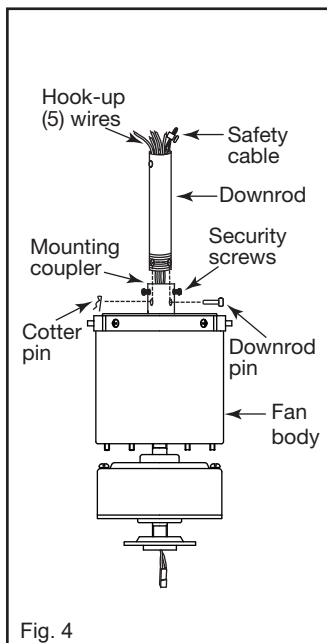

Fig. 4
Step 4. Carefully feed the electrical lead wires and safety cable from the fan through the downrod. Thread downrod into coupler until holes align. Insert downrod pin through holes in mounting coupler and downrod; clip cotter pin through small hole in end of downrod pin to hold downrod in place. (Fig. 4)